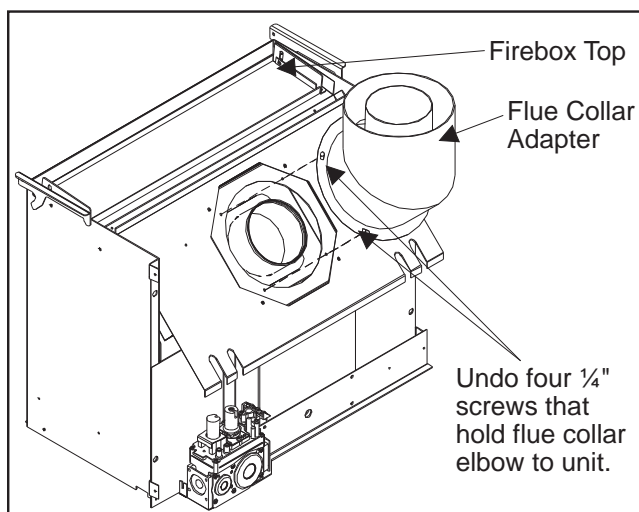

Figure 44: Step 3 of Converting Top Vented into Rear Vented.
2. Remove the four (4) $\frac{1}{4}$ " screws that hold the flue collar elbow to the unit body (see Figure 44).